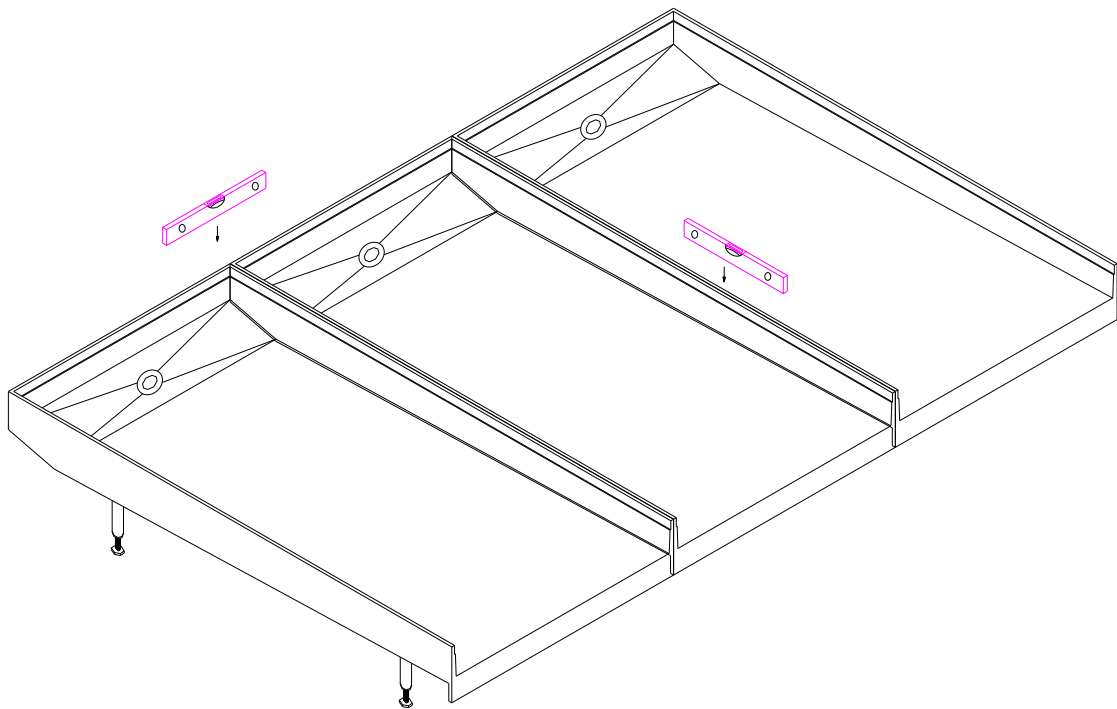

Figure 4.
1. Level the system such that **ALL** the units are level along their top edges and are **ALL** at the same height on their edges, using the leveling screws installed in Step 1. See Figure 4.